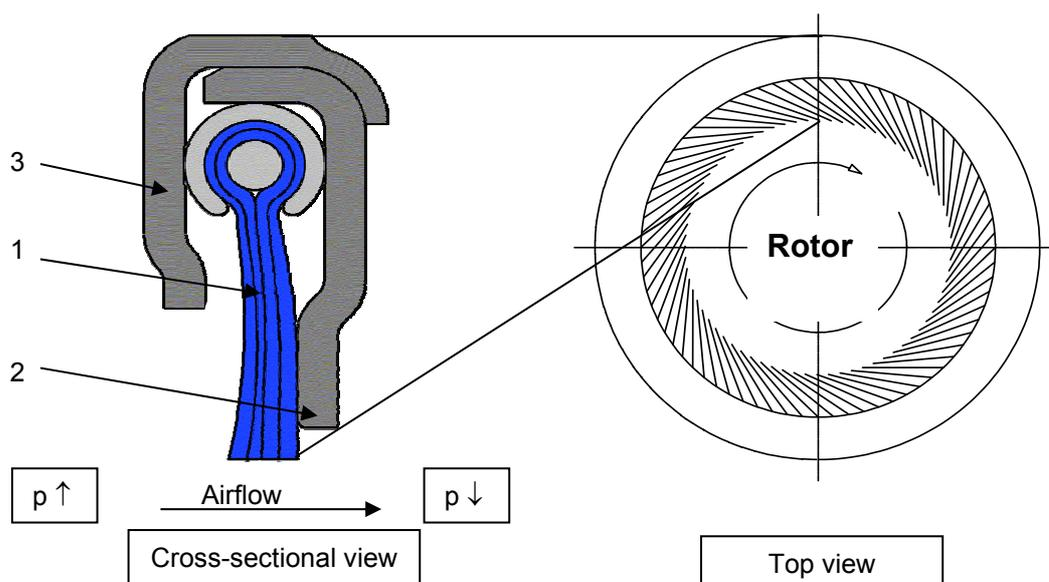

Figure 2: MTU brush seal
MTU brush seals may be single-piece or split seals. As can be seen from figure 2 (single-piece version) the MTU brush seal essentially consists of three elements. The core element (1) is held in place by the support plate (2) and protected by the cover plate (3). The wire bristles are bent 45° in the direction of rotation of the rotor.